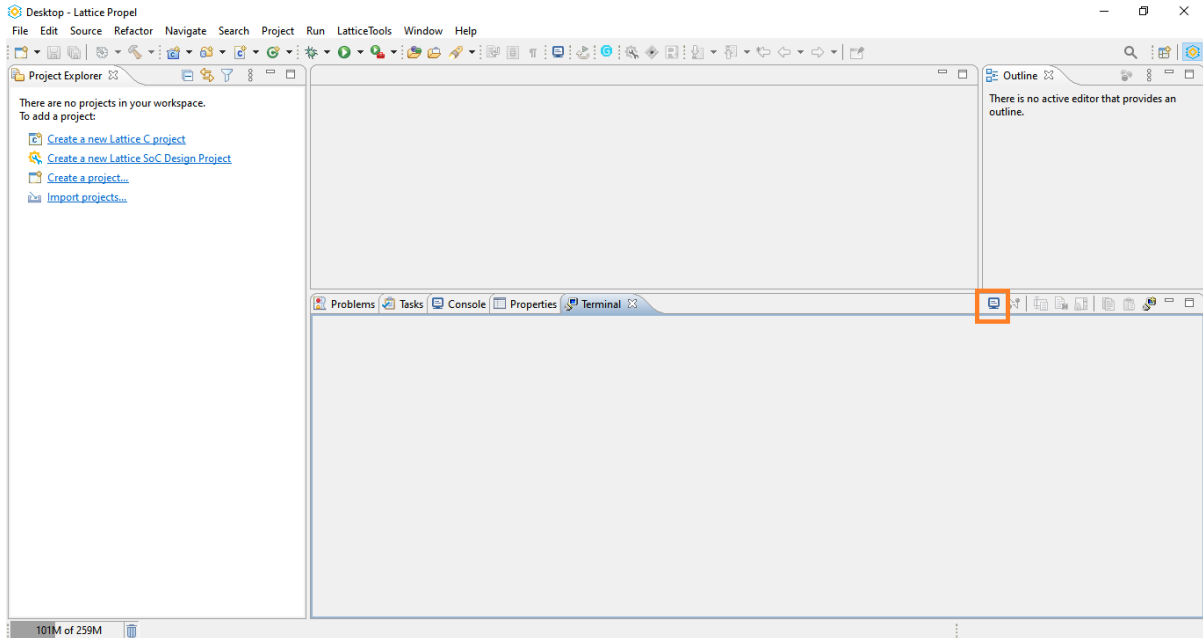

Figure 5.2. Opening a Terminal in Propel SDK
6. Click the **Launch Terminal** button to open a terminal as shown in Figure 5.2. The launch terminal dialog box is displayed.